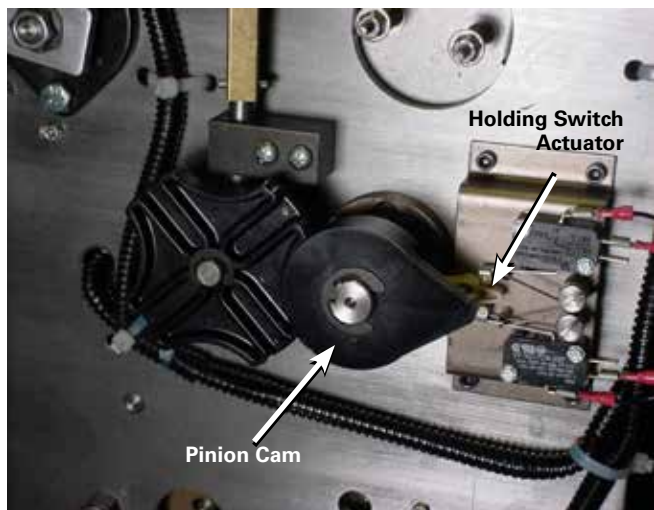

Figure 25. Neutral position for position indicator pinion cam and holding switch.
C. The pinion cam is pointing to the right over the holding switch actuator. See Figure 25.